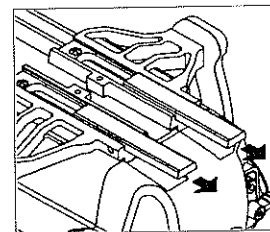

Figure 14
2. Remove both rubber feet. (Figure 14)